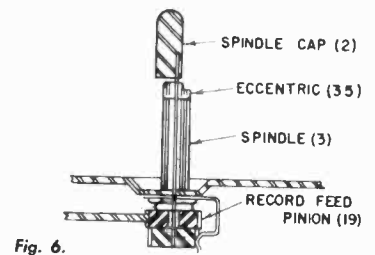

Fig. 6.
loosening the clamping screw on the *feed pinion* (20), shifting the position of the *eccentric* so that it is aligned with the *spindle* (3) and retightening the clamping screw. See Fig. 6.